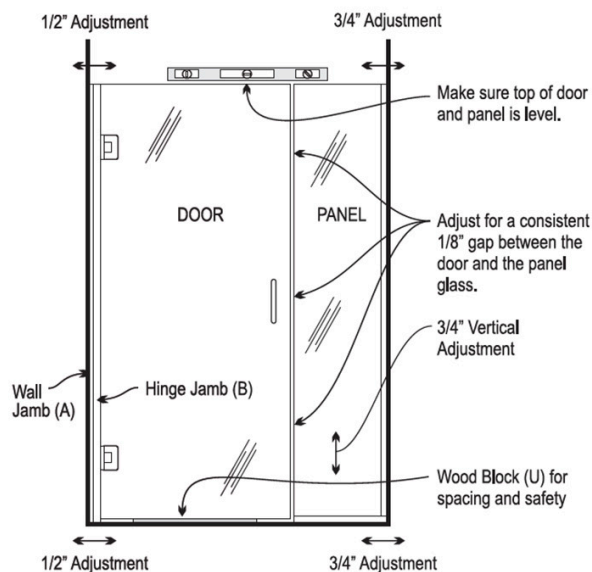

FIGURE 14
Note that the Glass Door (O) and Glass Panel (P) are setting in place, while one person steadies the door the other can adjust both pieces of glass so that you have about 1/8" gap between glass panels. (See Figure 14) (1/8" is recommended to reduce leakage, but can be larger if desired). It is ideal to adjust a little in both door and panel instead of pulling all the adjustment out of one or the other (depending on your size, you might have to fully adjust both to ensure proper fit). Make sure that the 1/8" gap is uniform the entire length of the door. Make sure the door is level before drilling holes. (See Figure 14)